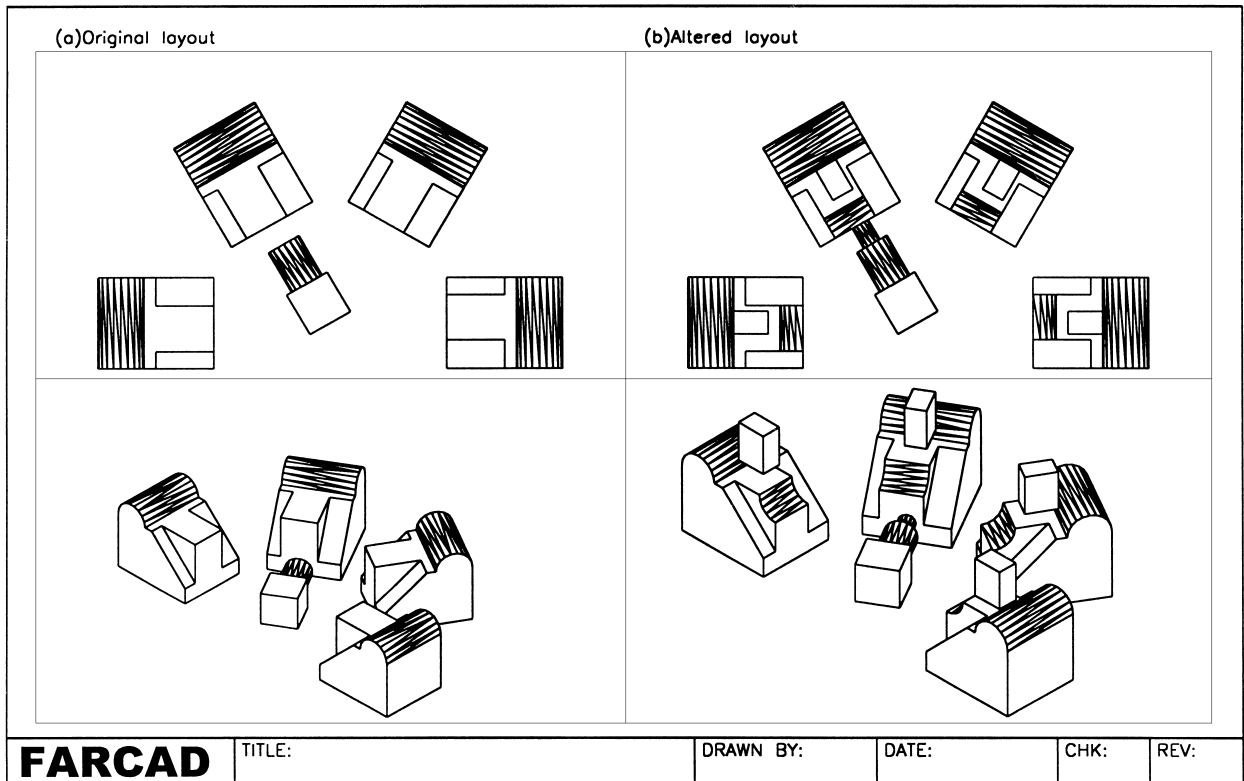

Figure 42.6 SHOPLAY created from external references.
- 16 Figure 42.6(a) displays this layout as a 3D and top view only.
- 26 The SHOPLAY will be displayed with the modified solid composites as Fig. 42.6(b).